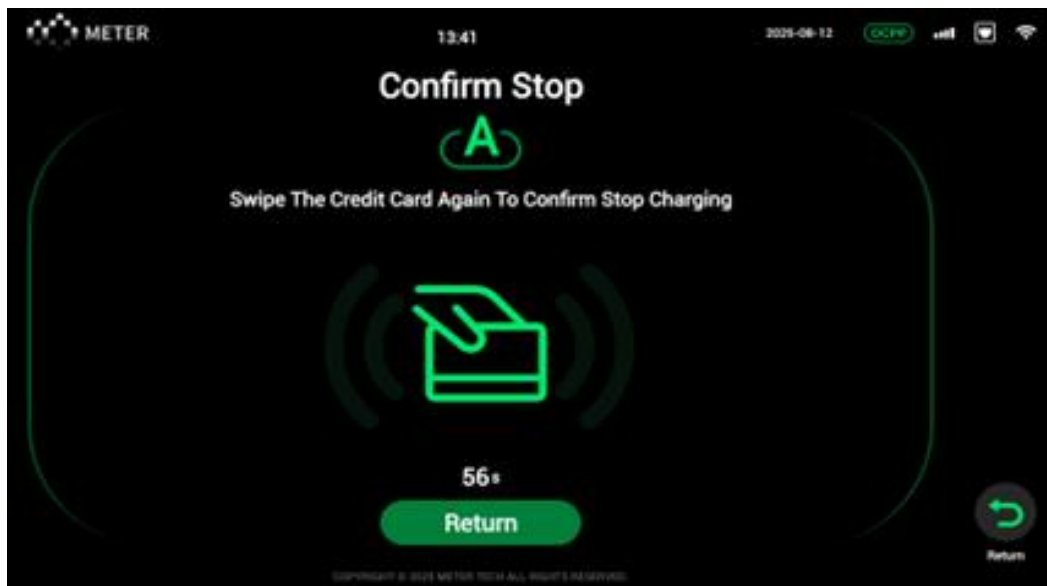

Figure 44. Credit Card Settlement Interface
- When choosing a POS credit card, you need to swipe the card again to pay (as shown in Figure 44)